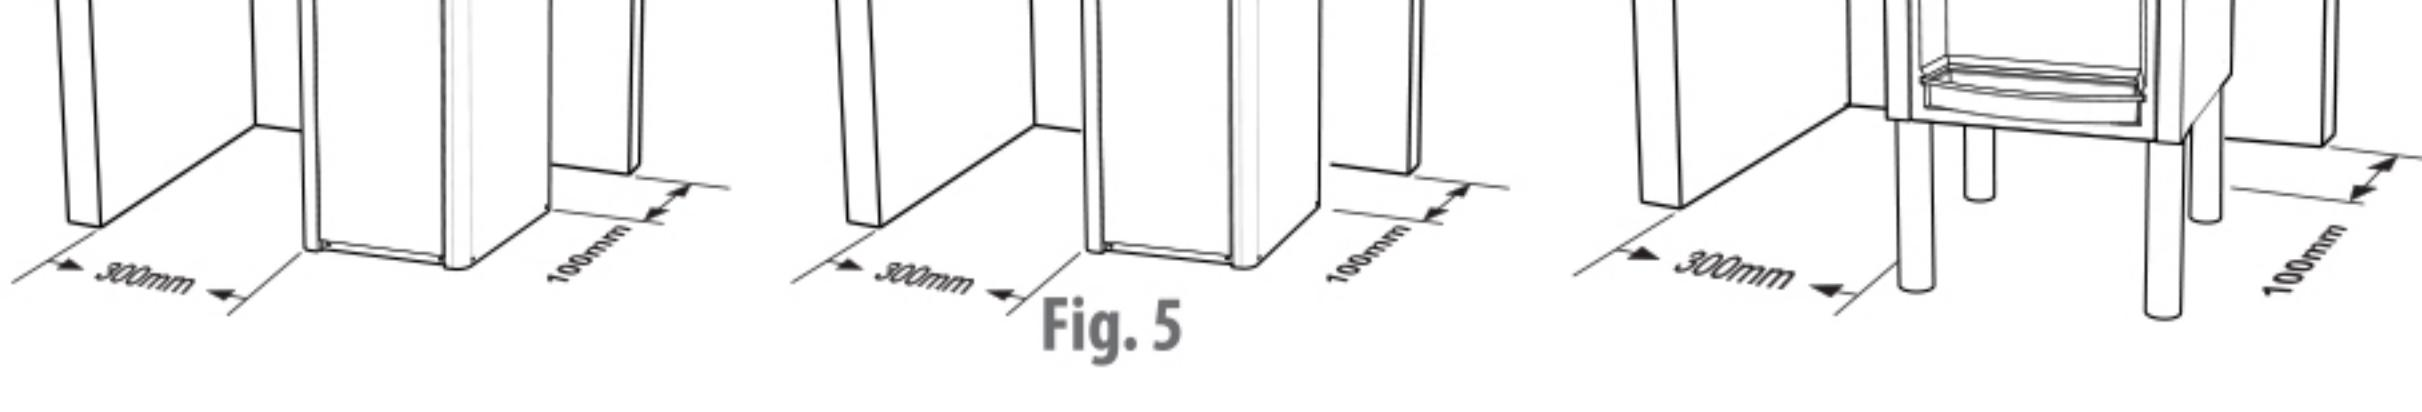

Fig. 5
• When installing the minimum distance of the installation should be 30 cm on the sides and 10 cm deep (Fig. 5)